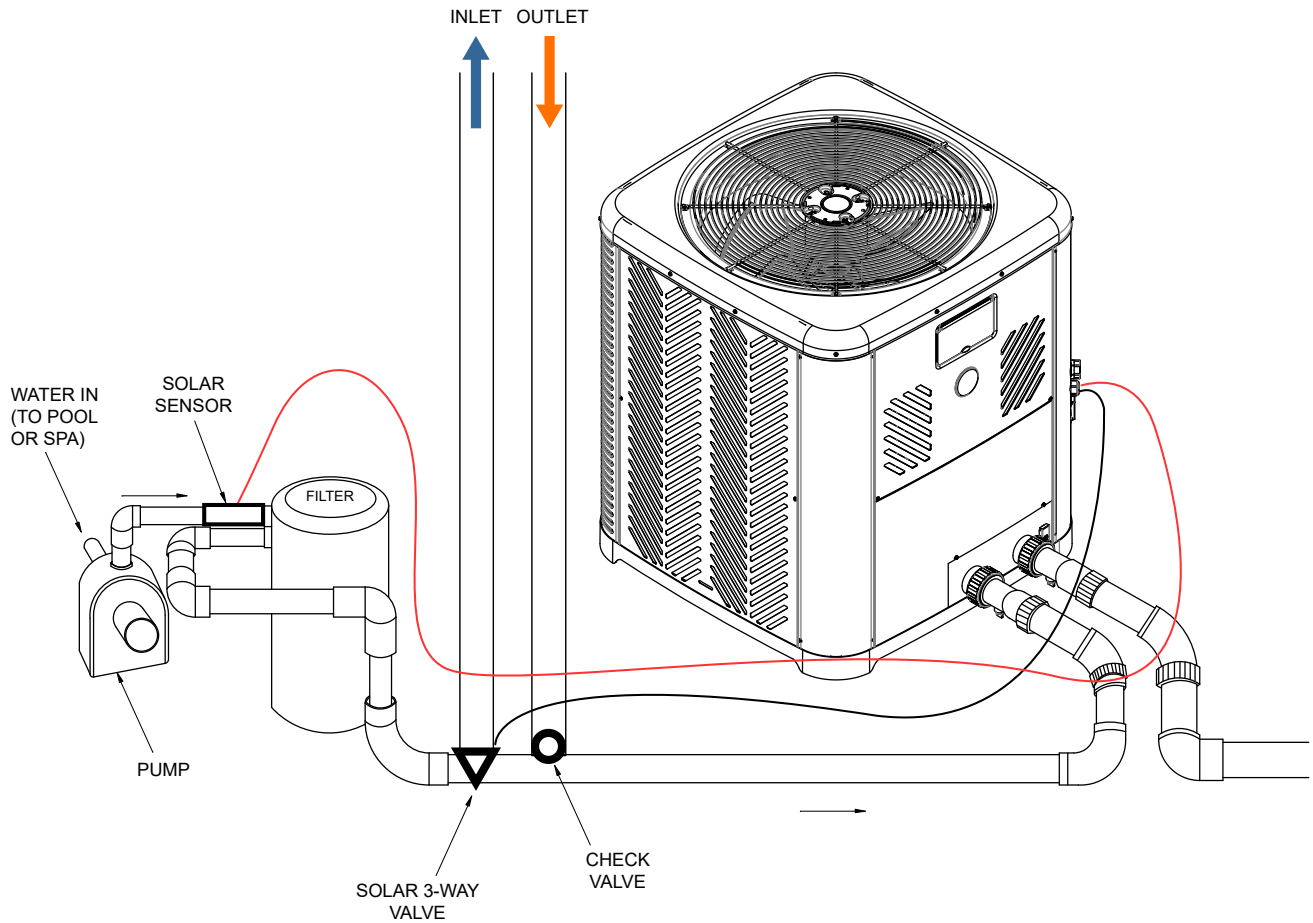

Figure 156. Solar Heater Components in the Piping
3. Install a "check valve" at the outlet of the solar heater to prevent backflow to the solar collector. See Figure 156.